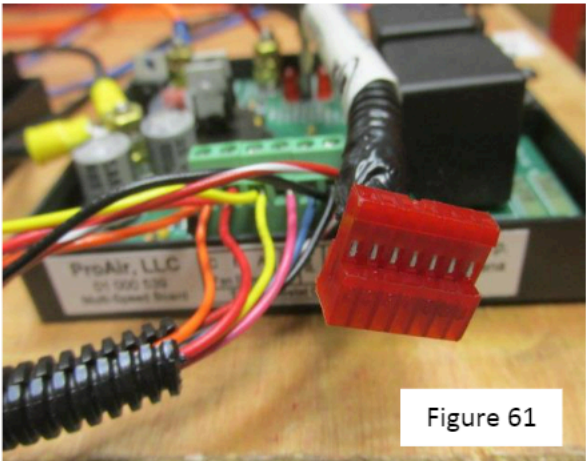
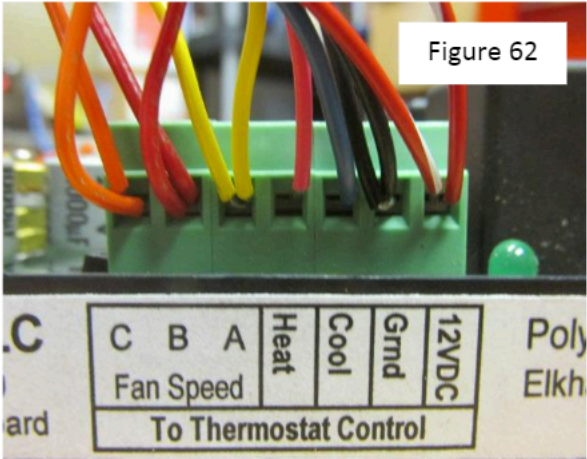
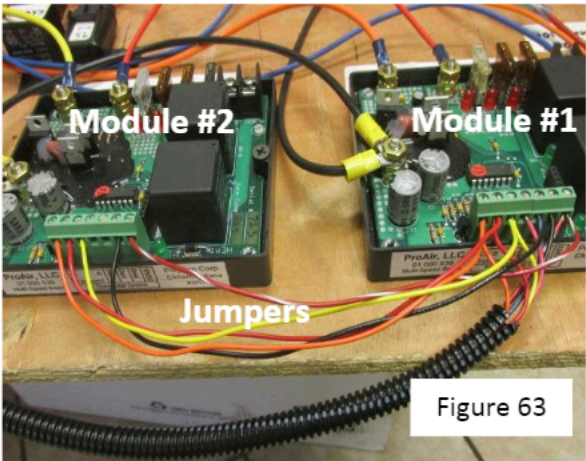
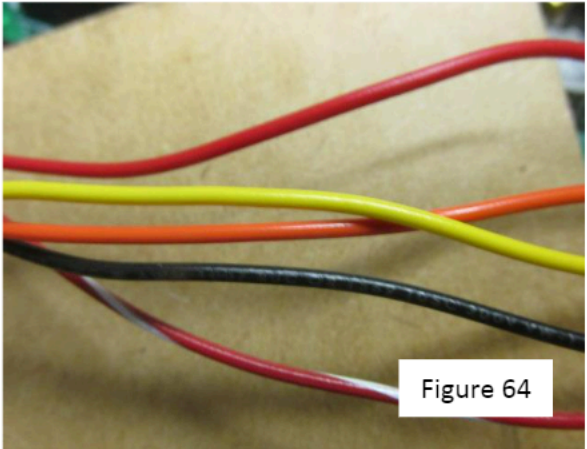

Figure 61
Figure 62
Figure 63
Figure 64
32. The Control Panel is finished by wiring the Thermostat. The Thermostat is connected to the Thermostat Harness 01 000 538 by a 7- pin connector on one end of the harness (Figure 61). The other end of that harness is hard wired into Module #1 (Figure 62). Five of those connections on Module #1 are jumpered over to Module #2 (Figure 63). The wire for that process is cut off of the bare end of the harness (about 8 inches) before the harness is connected (Figure 64). Follow the same color coding on the jumper wires.